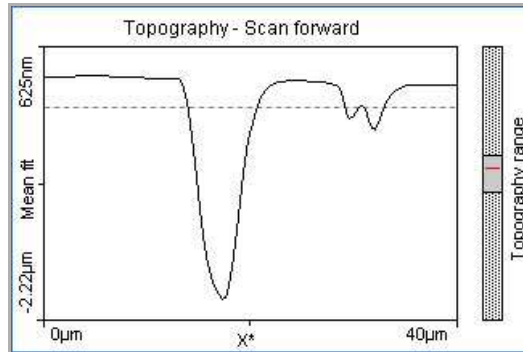

Figure 25: Low Gain. The feedback loop is not responding quickly enough.
- Lower the integral gain well below the optimal setting. As you lower the gain, the feedback loop will not work quickly enough to provide high resolution. Note the poorly defined edges in *Figure 25: Low Gain*. At a lowered gain, the feedback loop is not responding quickly enough to respond to changes in height.